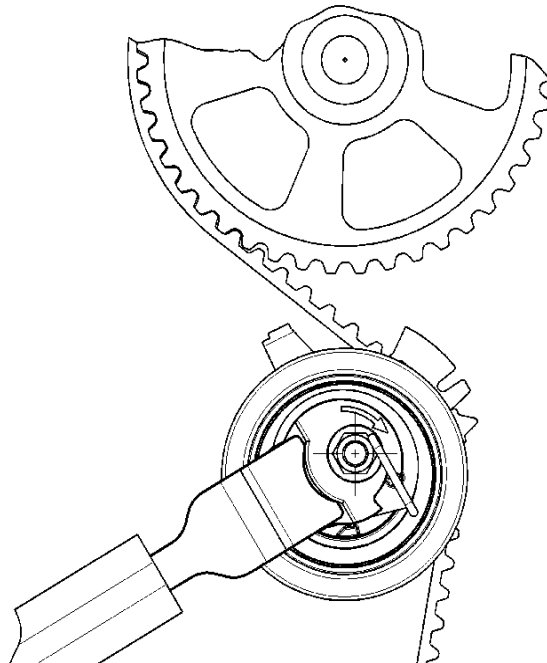

Figure 8: TBT shown at Load Stop
10. Continue rotating the installation shaft until the arm hits the load stop, see Fig. 8. This will maximize the belt clearance for ease of belt installation.